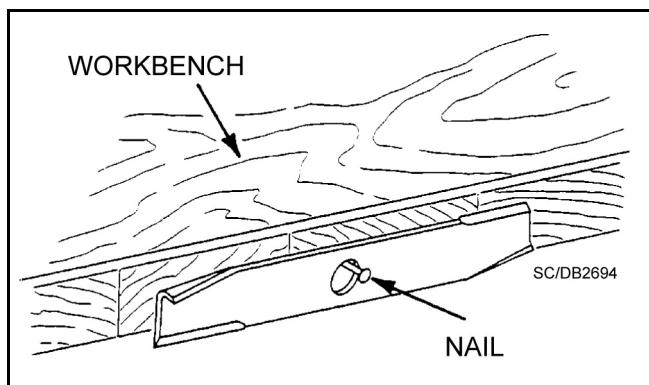

Figure 10. Blade Balancing
4. Sharpen both cutting edges equally to keep blade balanced. Balance blade using the method shown in Figure 10.